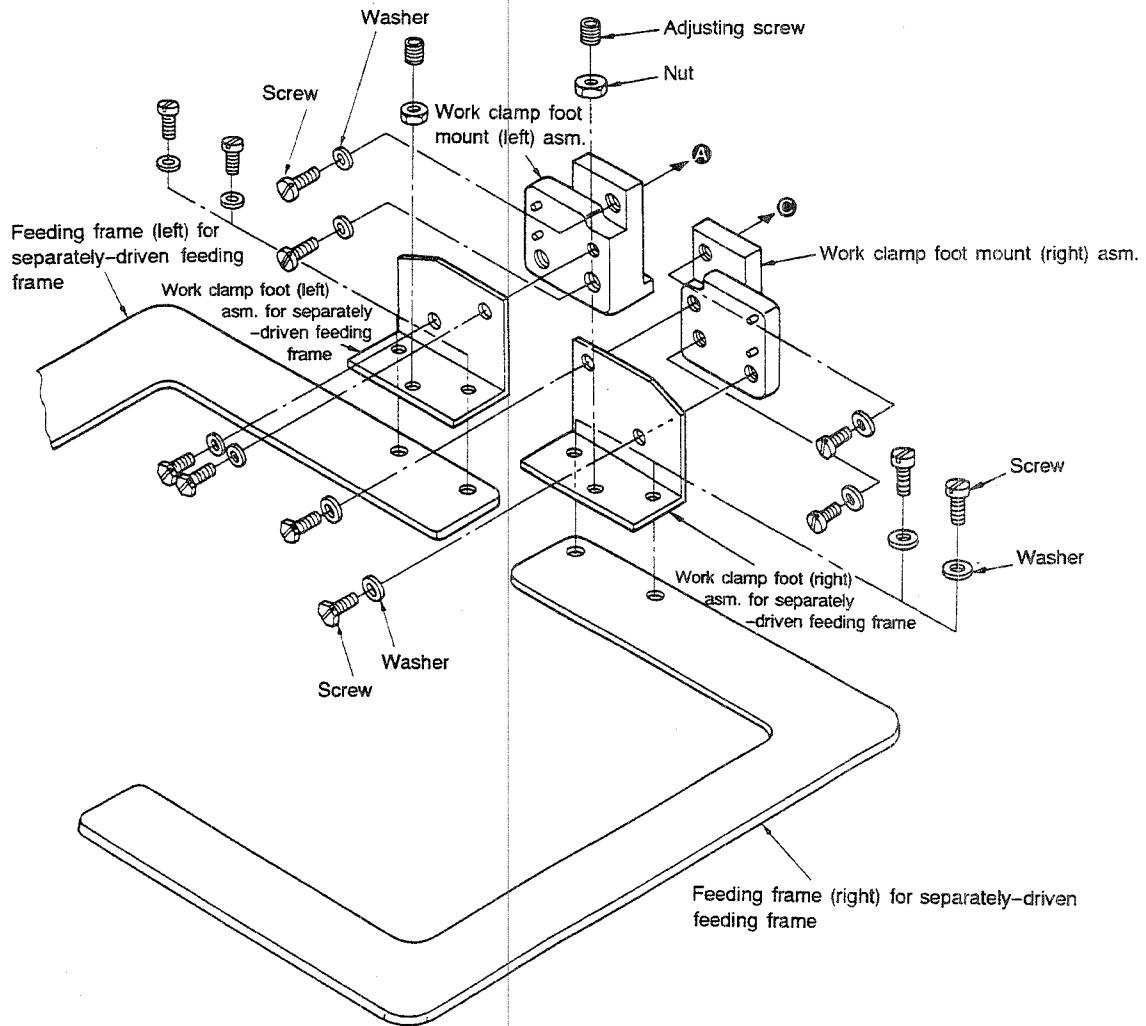

Fig. 4-8-1
- 1) Assemble the work clamp components referring to Fig. 4-8-1.
- 2) Attach the work clamp foot mount (right) asm. and work clamp foot mount (left) asm. respectively to section **C** and section **A** using screws of the work clamp foot mount (asm.) as illustrated in Fig. 4-8-1.